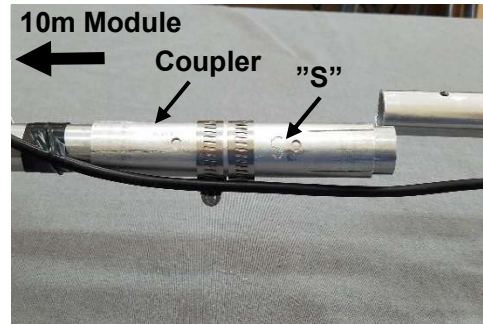

FIGURE 136
STEP 18.4 Activate the 1" coupler of the section 2 **Quick Disconnect 1**, shown in **FIGs 4 and 133**, to create a gap opening in section 2. Be sure both ends of section 2 are on a flat surface, to avoid angular binding. First, place a Mark on the 7/8" tube at the S engraved end of the 1" slotted coupler tube. This coupler end also faces the 1" sleeve of section 2. Remove tape from the control cable on coupler, remove the two #8 screws, and loosen #6 SS clamps at each end of coupler. Then slide the coupler towards the 10m module, until the end gap opening in the 7/8" tube is exposed, as shown in **FIG. 136**. Place uncoupled section 2 aside. When re-assembling, the engraved "S" on 1" coupler must be UP.